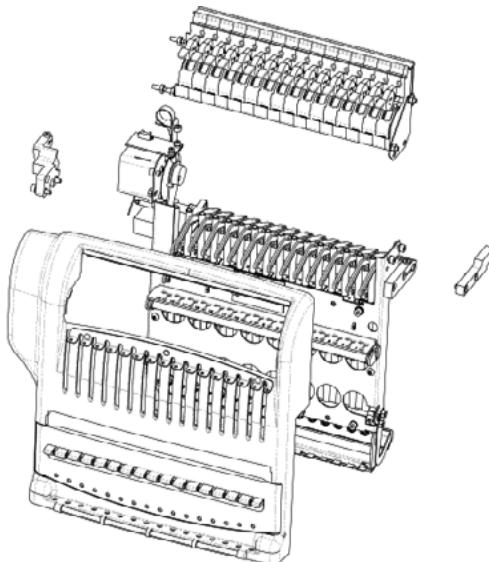

Figure 1 - Needlecase Assembly
- Connect the harnesses to the two PCB's and the stepper motor (Figure 1).